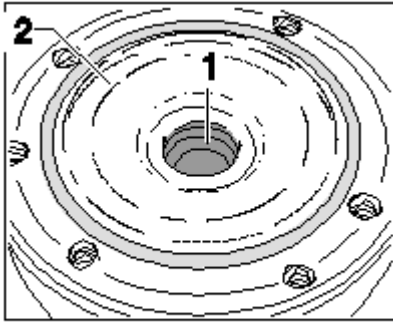

Fig. 41: Rubber stop
6. When replacing the air spring, push the rubber stop -1- out of the centring device. See **Fig. 41**.